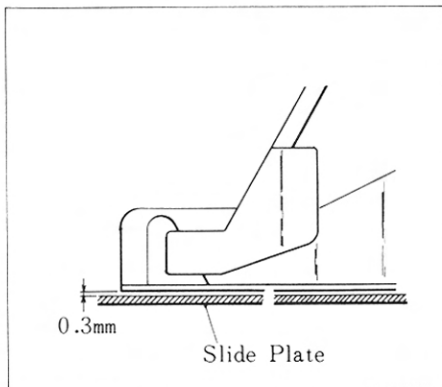

Figure 8
- With the patch guide down (on top of the appropriate thickness of material), the patch guide height is adjusted by the drive cylinder clevis. To adjust the patch guide parallel to the bedplate, loosen the two locking screws in the patch guide cam plate and tilt as required the cam plate. (see Figures 8 and 9)